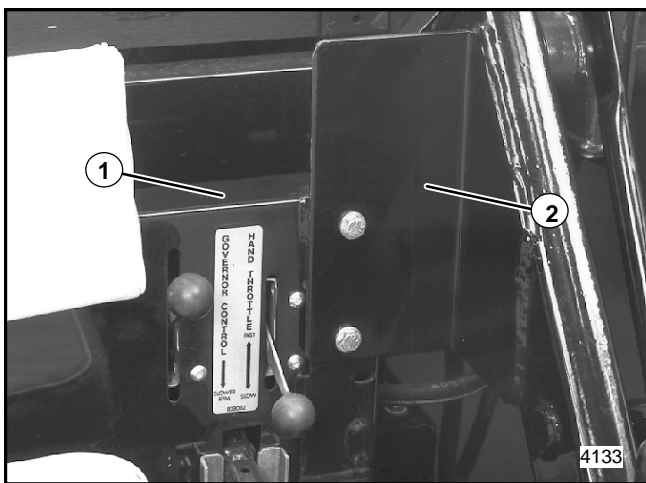

Figure 5
1. Place the main frame upper mounting bracket in position against the FRONT of vehicle stopwall. At the same time place lower mounting bracket in position on vehicle FRAME RAIL. Use two screws, 5/16-18 x 1 (Part No. 306416), four flat washers, two lockwashers and nuts to secure upper mounting bracket to stopwall (See Fig. 5). Tighten hydraulic box hardware.